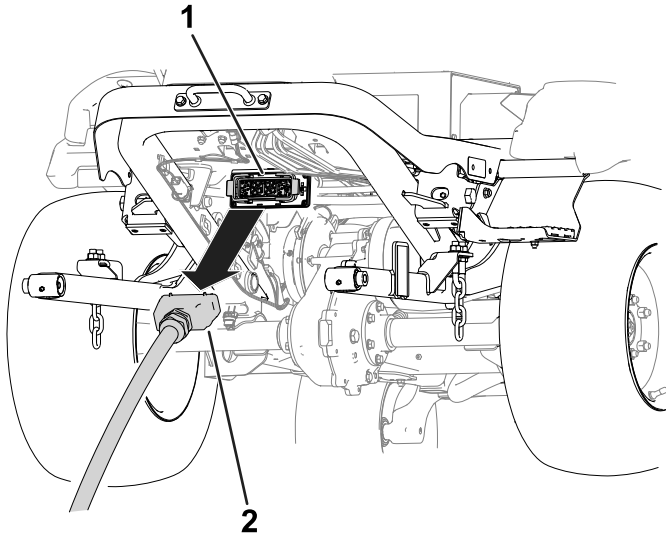

Figure 19
5. Disconnect the cutting-unit connector from the machine connector (Figure 19).